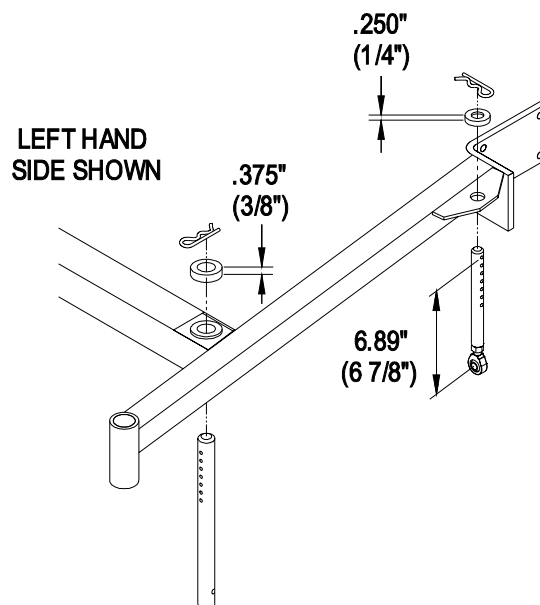

FIGURE 12
1. The front and rear hairpins are in the same holes with the proper spacers under the hair pins (See Figure 12).
3. The length of the rear deck support link assemblies are set to 6.89” (approximately 6 7/8”) from the center of the balljoint to the center of the furthest hole (See Figure 12).